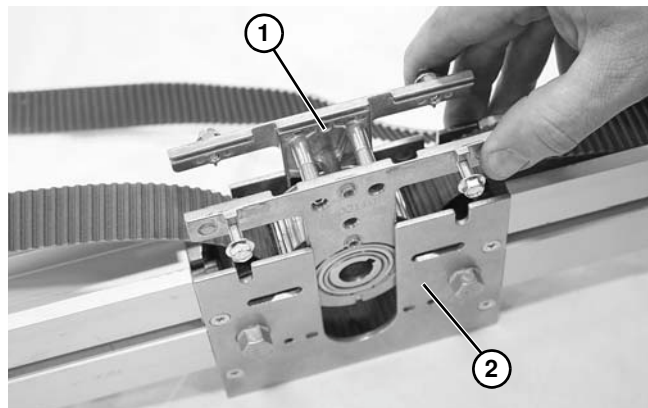

Figure 17
8. While pressing in on hex flange screws, remove mid drive cartridge (**Figure 17, item 1**) from mid drive assembly (**Figure 17, item 2**).